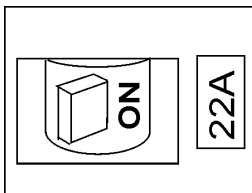

Figure 17. Main Circuit Breaker (ON)
- Place the main circuit breaker (Figure 17) in the **ON** position.